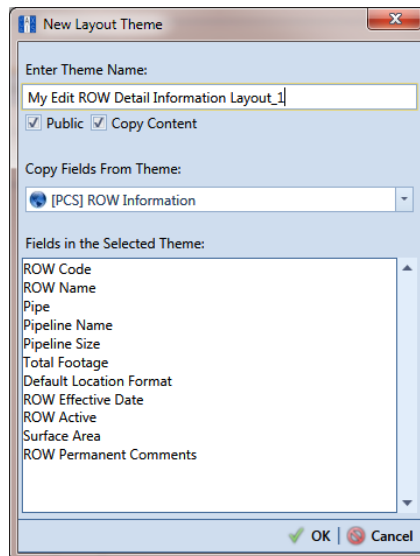

Figure 3-22. New Layout Theme
- 4 Click the **Customize** tab  then  **Add** to open the *New Layout Theme* dialog box. The following figure shows an example when adding a layout for the *Information* grid (Figure 3-22).